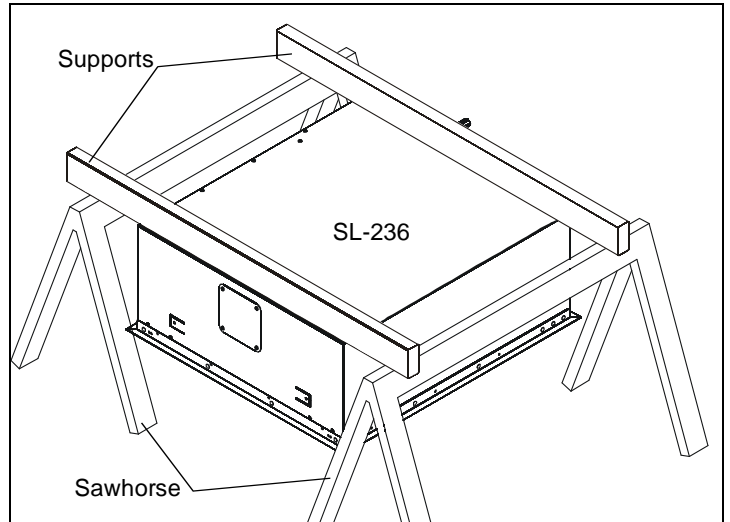

Figure 3
6. Suspend the lift at least 3-1/2 ft. above a surface from a suitable structure such as saw horses, ladders or tables. (See Figure 3)